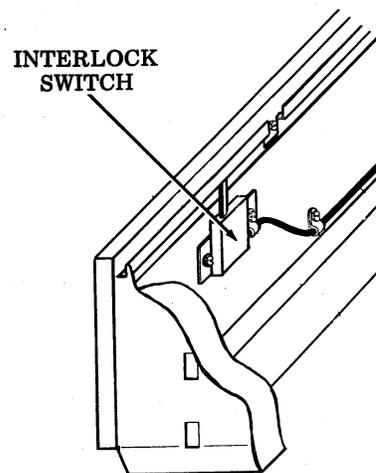
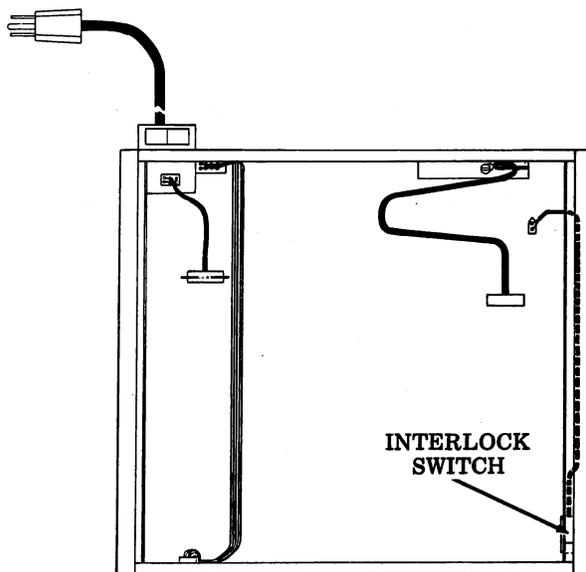

Fig. 14a
Fig. 14b
2.12 Two of the pins in the printer connector at the left rear of the (Fig. 14a) (tractor feed printer) and a two pin connector at the right rear side, (Fig. 14b) (friction feed printer) are provided for connection to cover interlock switch so that the printer will not operate with